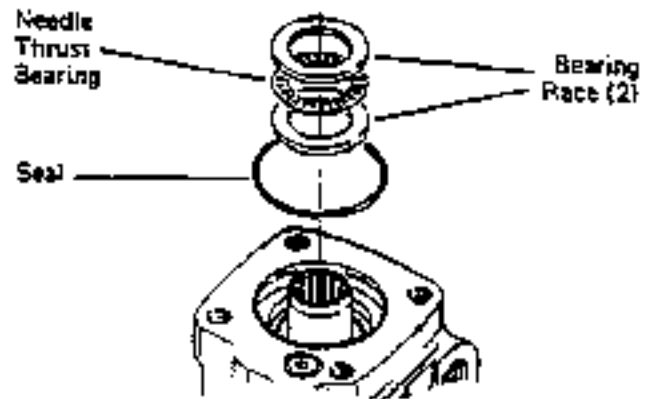

Figure 17
12. Place housing on clean, lint free cloth. Install 2 1/8" diameter seal in housing, see Fig. 17.
13. Install 2 bearing races and the needle thrust bearing in the order shown in Fig. 17.